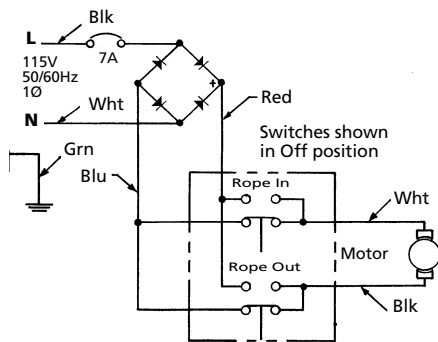

Figure 3 - Electrical Schematic
1. Winch is rated at 1,000 lbs., single line capacity (See Figure 3). Maximum load is rated with wire rope being wound around bare winch drum. Each succeeding layer of rope added will reduce the maximum capacity by about 10%.